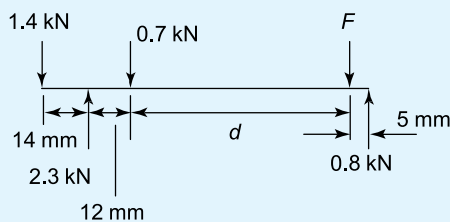

Figure 6.17
2. For the force system shown in Figure 6.17, find the values of F and d for the system to be in equilibrium.